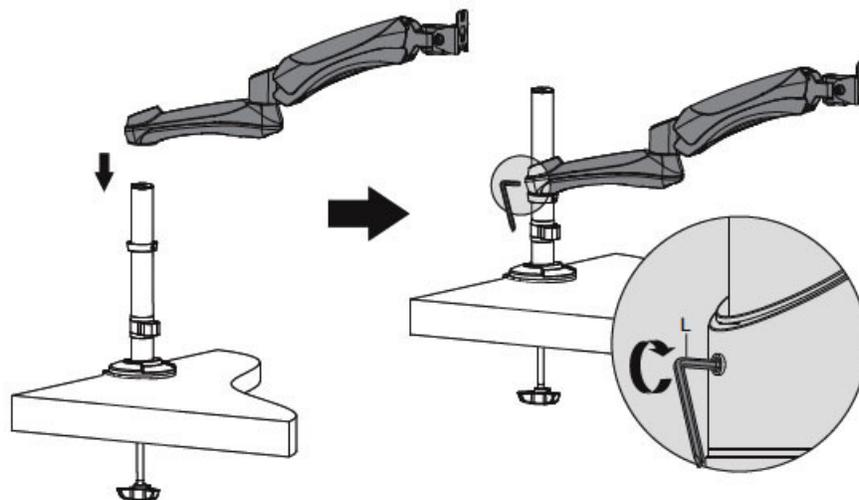

Figure 9
3. Slide the Extension Arm over the Tube Support until it rests on the Position Ring, then tighten the Hex Nut finger tight using a 3mm Allen Key (L), see Figure 9.